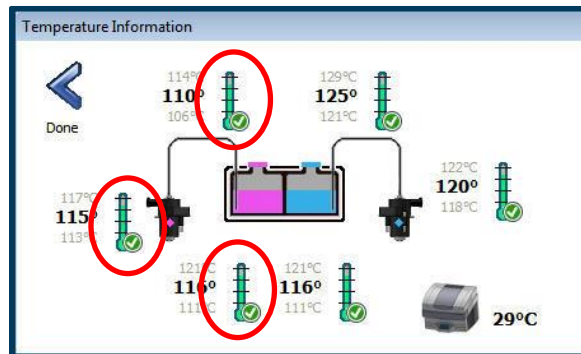

Figure 3
- b. Press on each of the circled icons below, in turn, to change the setpoints of the Support Heated Line, Support Printhead, and Support Tank (Figure 3).